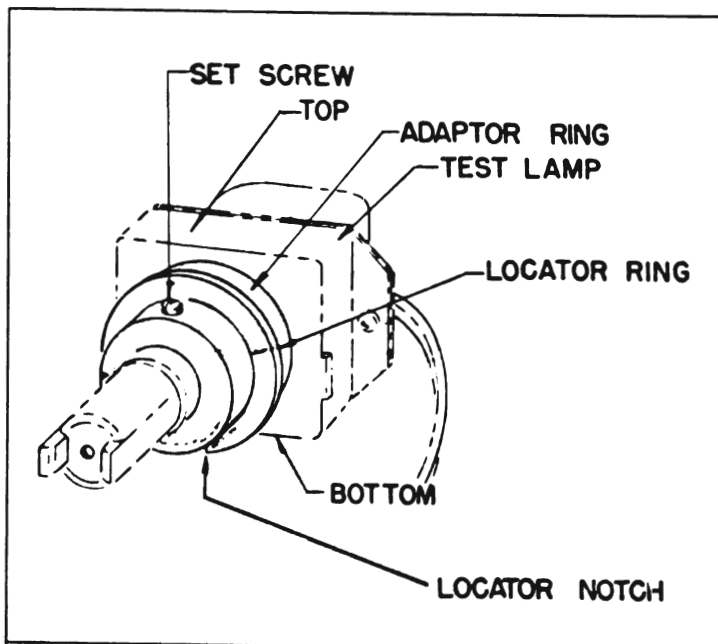

Figure 10-58—Autronic-Eye Test Lamp
1. **Installing Test Lamp and Aiming Device.** The test lamp is a very accurate source of light which is connected to a test instrument. The test instrument has a rheostat to adjust the test light intensity and a meter to accurately read that light intensity. To install the test lamp, remove the phototube cover and insert from the front. An adaptor ring fits into the lens slot with a locator notch down to accurately locate the test lamp. See figure 10-58.